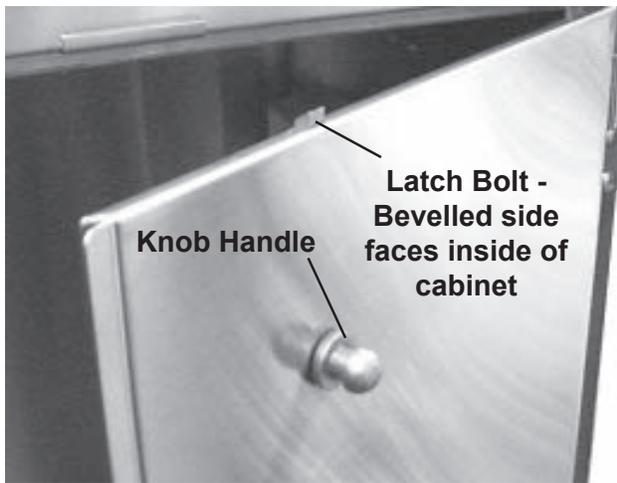

Figure 31. Knob Handle and Latch Bolt
1. With a pliers, unscrew the knob handle from the door (Figure 31). If not replacing the bolt or spring, proceed to *Step 7*.